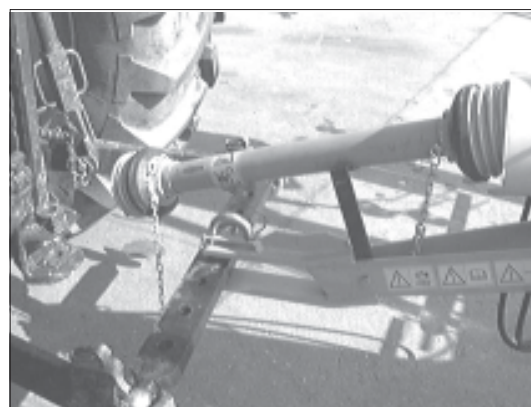

Fig. 3-20
- Remove the cardan shaft on the tractor side and place it onto its support (fig. 3-20).